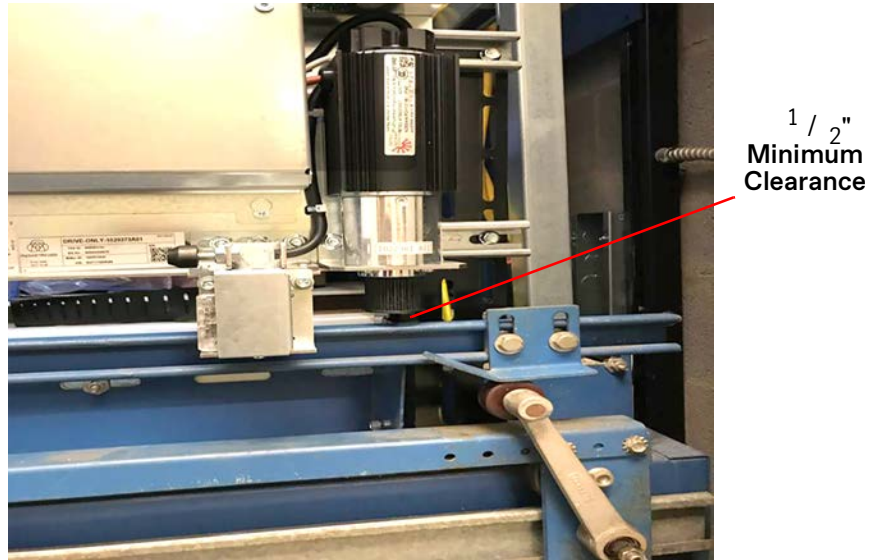

Figure 4 - Door Operator Drive Pulley Clearance
4. Verify that the door operator drive pulley will clear the car header or unistrut by a minimum of $\frac{1}{2}$ ". To adjust, raise or lower the unistrut on the vertical support angles. See Figure 4.